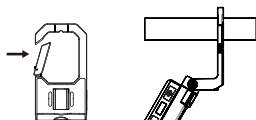

FIGURE 3
- Spring-loaded bracket on the base plate with snap clasp function, for attaching the light to a bar (Figure 3)